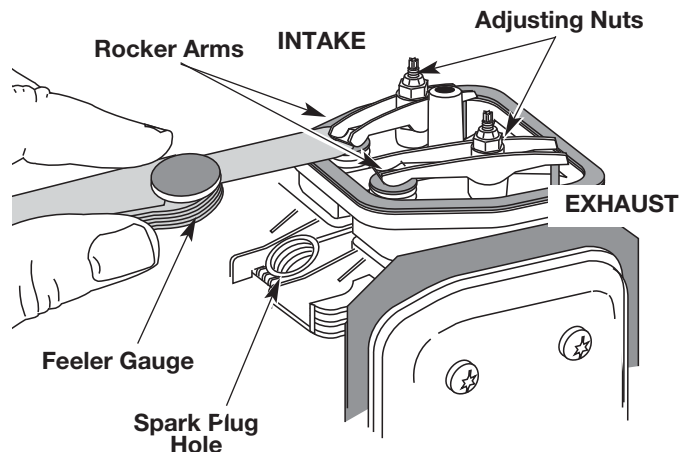

Fig. 33
- The piston is at the top of its travel. Look in the spark plug hole to view the piston (Fig. 33)
The recommended clearance for both intake and exhaust is .003 – .006 in. (.076 – 0.152 mm). Use a standard automotive .005 in. (0.127 mm) feeler gauge. The feeler gauge should slide between the rocker arm and valve stem with a slight amount of resistance, without binding. See Figures 33 and 34.